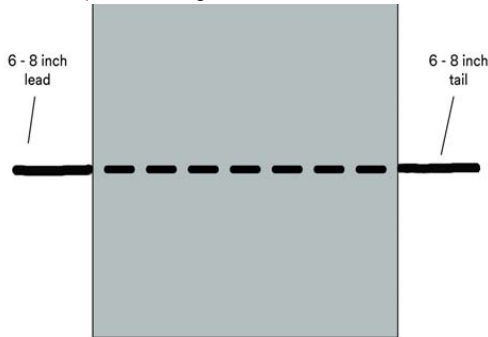

Figure 1.
2. Apply the film over the tape, leaving the lead and tail tape visible. (See Figure 1.)